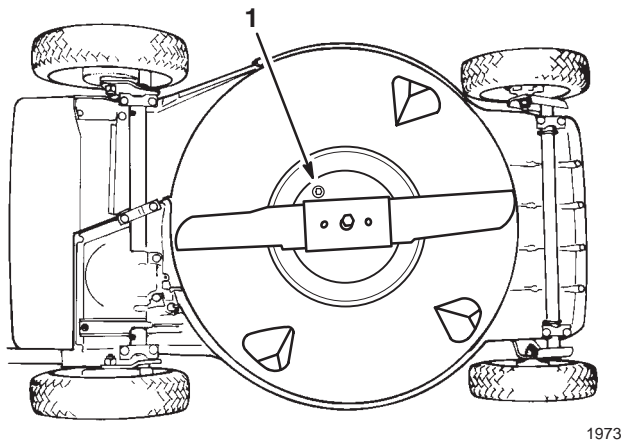

Figure 17
3. Tip mower on its left side (Fig. 17).
5. Remove drain plug from underside of mower (Fig. 17).